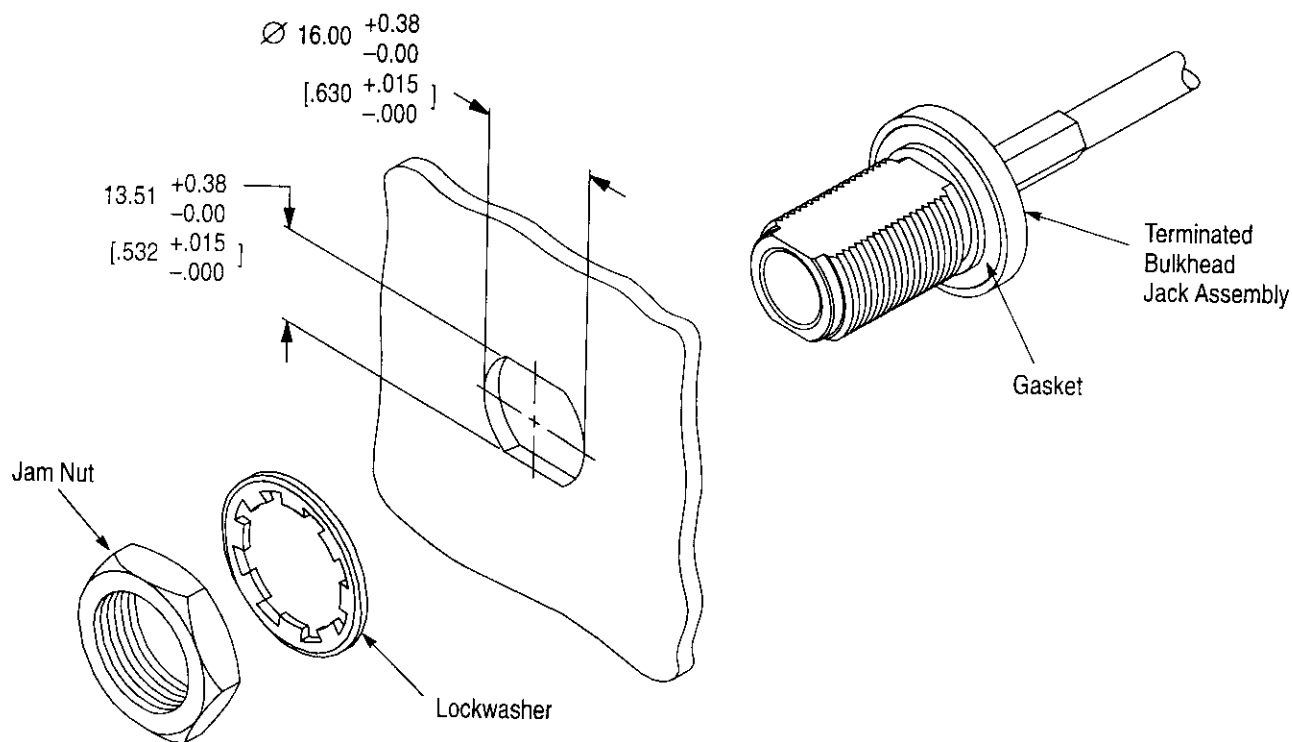

Figure 5
1. Make a cutout in the panel using the appropriate dimensions provided in Figure 5.
2. Assemble gasket onto connector assembly. Next, insert assembly into panel cutout as shown in Figure 5.